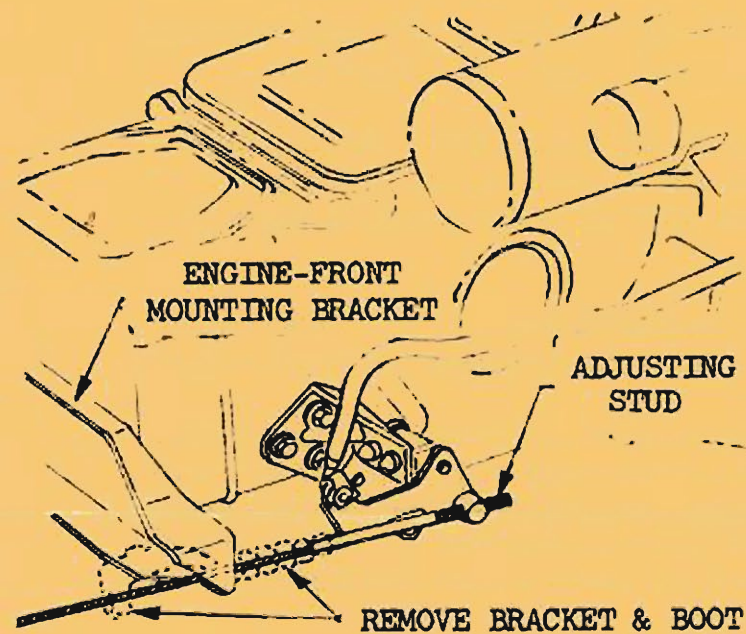
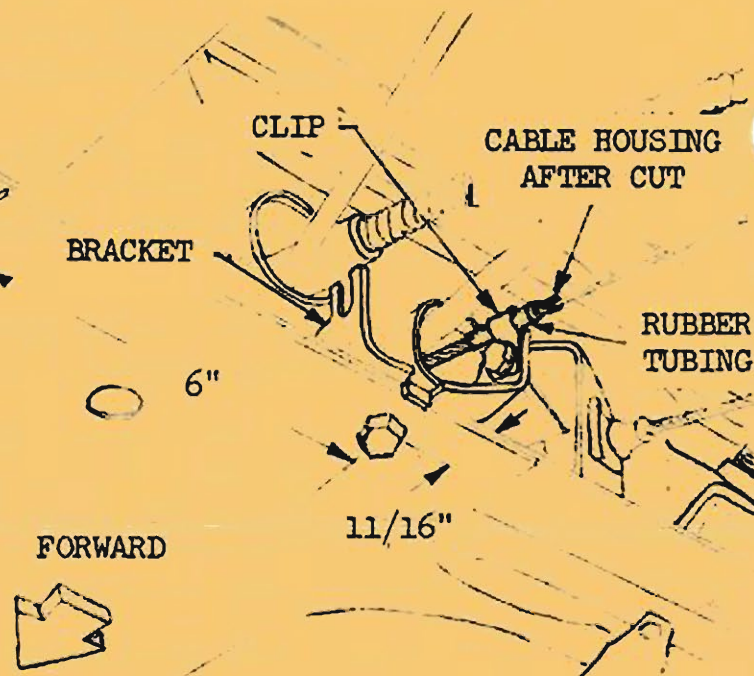

FIGURE 1
FIGURE 2
3. Using a fine tooth hack saw, cut cable housing off approximately 1" to rear of crossmember behind gas tank. See Figure 2.
6. Drill a  $9/32$ " hole in the flange of the crossmember at the rear of the gas tank 6" from the left hand side rail and  $11/16$ " forward. Remove the cable retaining bracket from the engine front mounting bracket (Figure 1) and install bracket on crossmember flange using the original attaching parts. See Figure 2.
7. Install Part #3778369 Clip or suitable substitute around the rubber tubing on the cable housing and fasten to the right hand slot of the bracket with a  $1/4$ " - 20 x  $1/2$ " bolt, nut and external tooth star lock washer. Make sure that the housing is retained securely but not crimped when the clip bolt is tightened. See Figure 2.